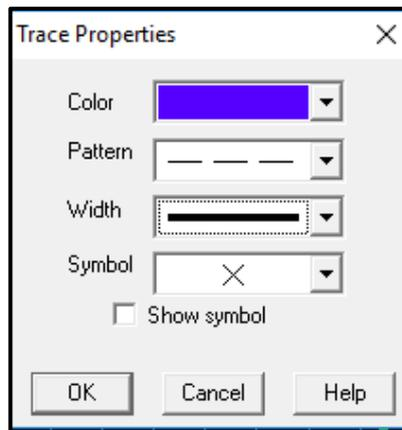

Figure.17
- The window shown in figure.17 will show up, you can change trace properties.